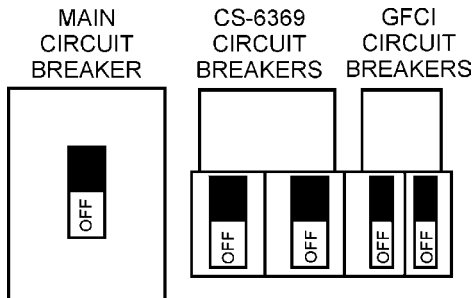

Figure 23. Main, Aux. and GFCI Circuit Breakers (OFF)
1. Place the **main, G.F.C.I., and aux.** circuit breakers (Figure 23) in the **OFF** position prior to starting the engine.